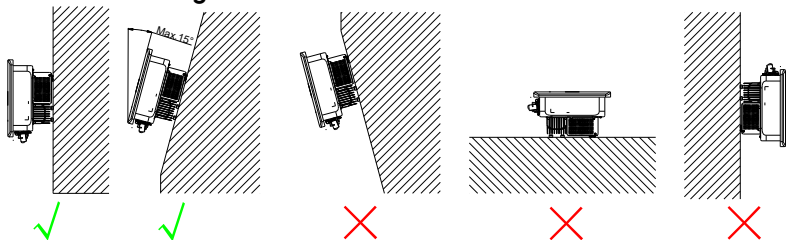

Figure 4.1 Mounting method
- ① The equipment employs natural convection cooling method, and it can be installed indoor or outdoor.
- ② Please install the equipment under the guidance of Figure 4.1. Vertical installation on floor level is recommended. Mount vertically or tilted backwards by max. 15°. Never install the inverter tilted forwards, sideways, horizontally or upside down.
- ③ Considering convenience for maintenance, please install the equipment at a position in parallel with line of sight.
- ④ When mounting the inverter, please consider the solidity of wall for inverter, including accessories. Ensure the rear panel mount tightly.